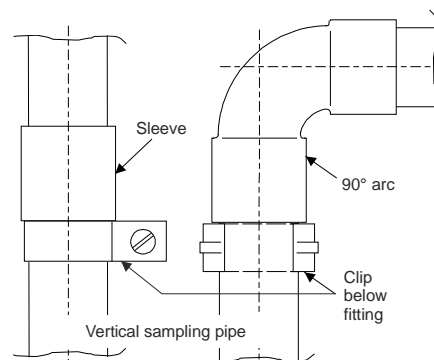

Fig. 8 Vertical sampling pipe
- If the sampling pipe or parts thereof is laid out vertically (e.g. in a riser or high-rack storage facility), make sure the tubes cannot slide down (secure clips directly below the fittings as shown in **Fig. 8**).